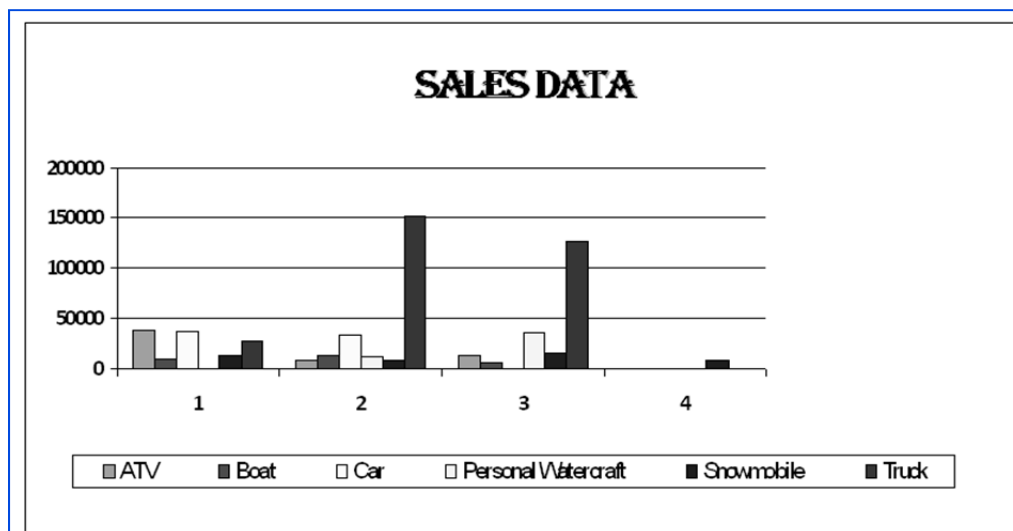

Fig. 2.5.6. The Sales Data Report
9. The resultant chart appears, as shown in Fig. 2.5.6.